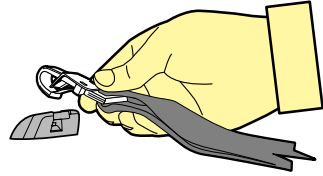

Figure 6
Step 6: Pull to tighten to remove all the slack, from the upper anchorage strap. Create a firm installation by tightening the upper anchorage strap (refer to Figure 6).